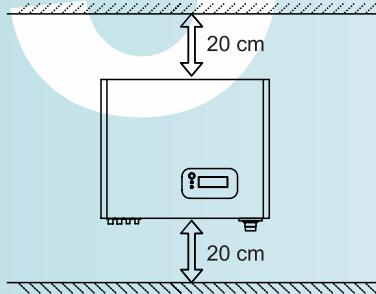

Fig. 1
- To ensure natural convection for the heat sink, ensure at least 20 cm of open space above and below the device (**Fig. 1**).